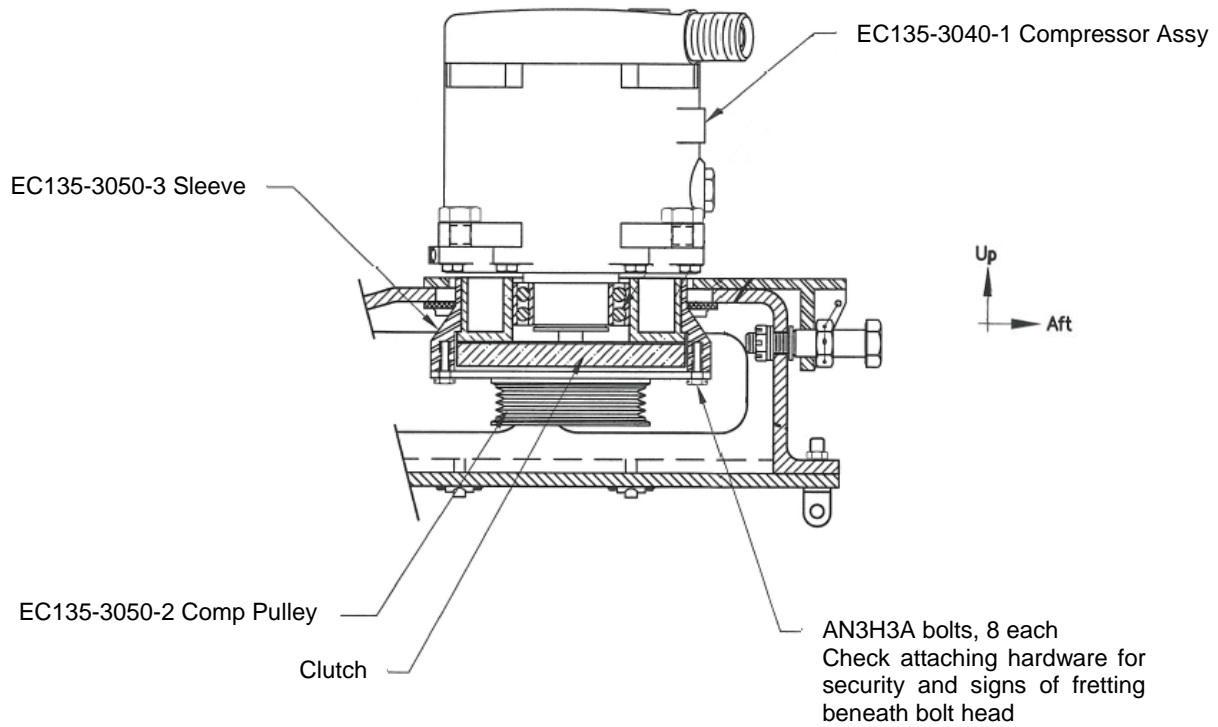

Figure 1.2
3. Inspect attaching hardware on compressor pulley for security (Figure 1.2). Contact Air Comm Corporation if any anomalies are found.